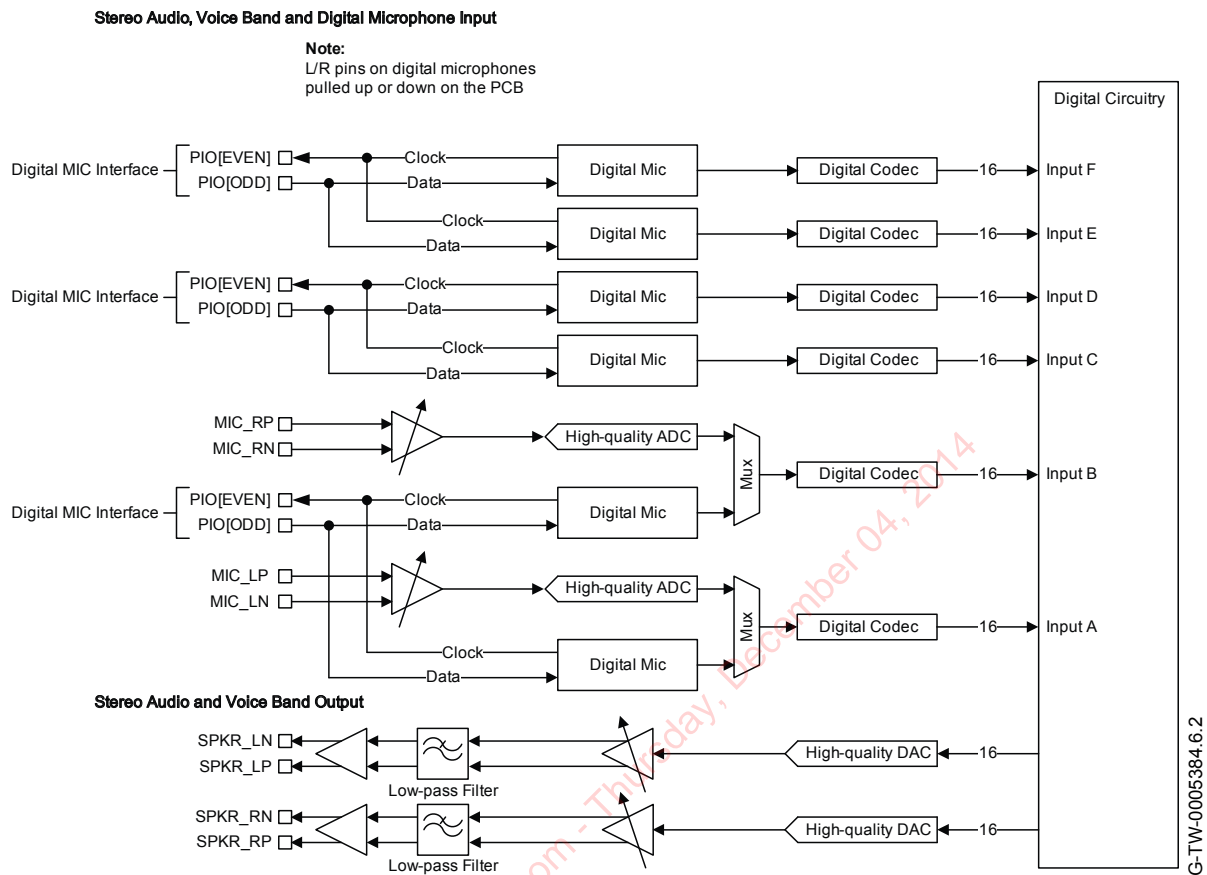

Figure 10.2: Audio Codec Input and Output Stages
Figure 10.2 shows the CSR8675 BGA consists of 2 high-quality ADCs:
- 2 fourth-order Sigma-Delta converters enabling 2 separate channels that are identical in functionality, as Figure 10.2 shows.